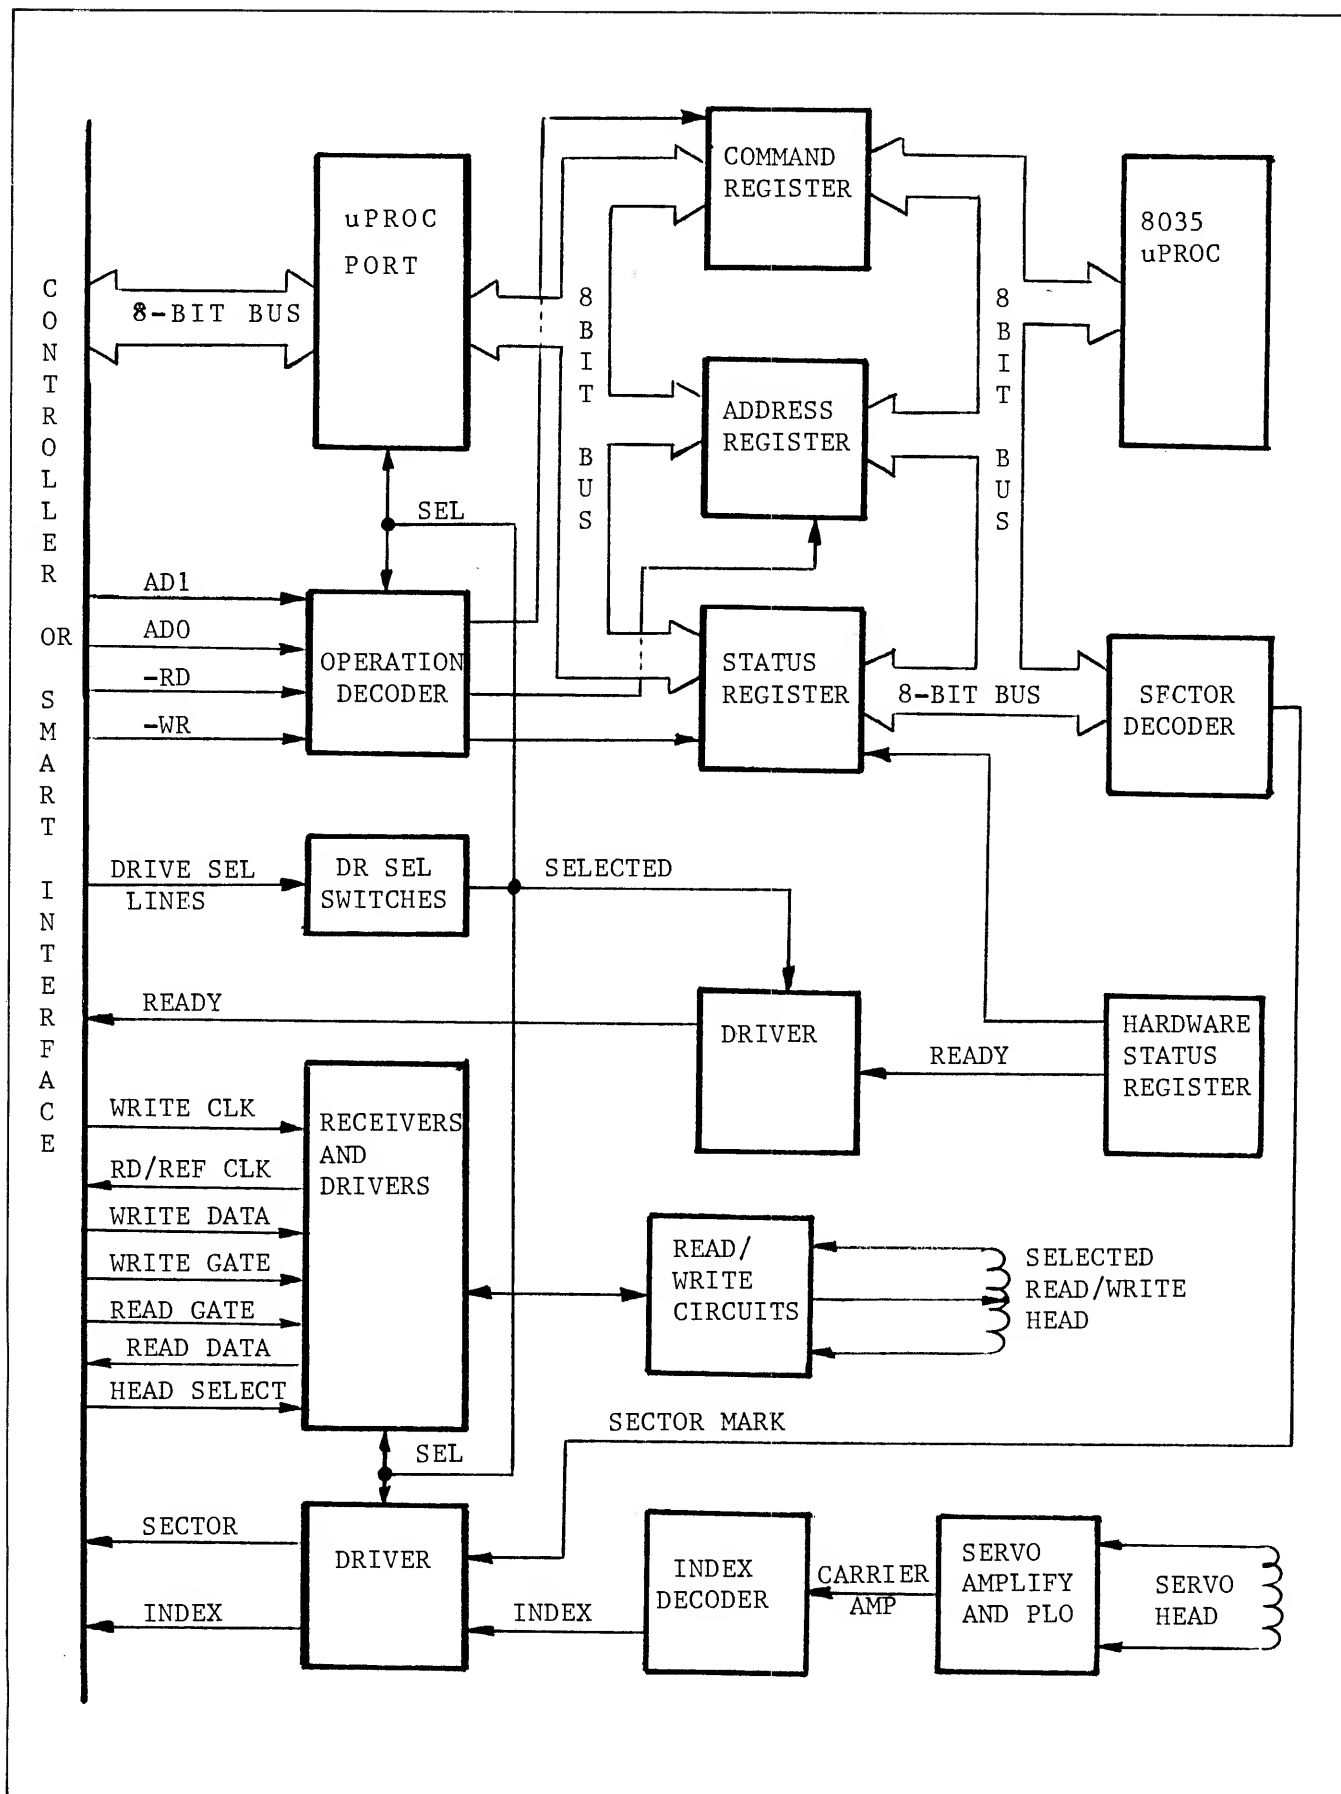

Figure 3-3. Simplified Block Diagram of a PRIAM 8-inch Disc Drive
3.8 Overview. Figure 3-3 is a simplified block diagram of a PRIAM 8-inch disc drive with the standard PRIAM interface. The overall organization shown is the same for all drives in the 8" family. However, the names of the specific interface signals vary as a function of the interface option present.